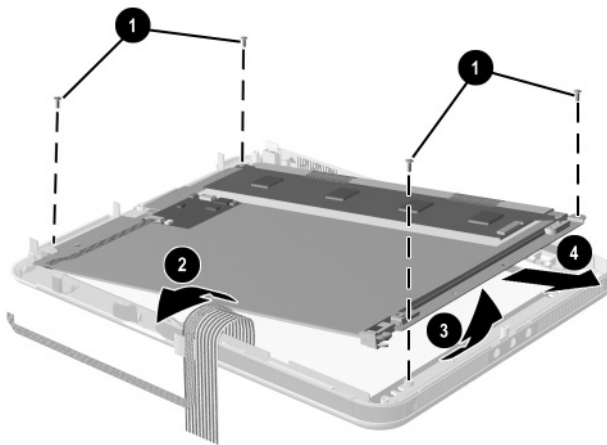

Figure 5-14. Removing the Display Panel
18. Remove the four PM2.0 × 4.0 screws ❶ that secure the display panel to the display bezel (Figure 5-14).
19. Swing the two flex cables to the left ❷.
20. Lift the front edge of the display panel ❸ and slide it forward ❹ to remove it from the display bezel.